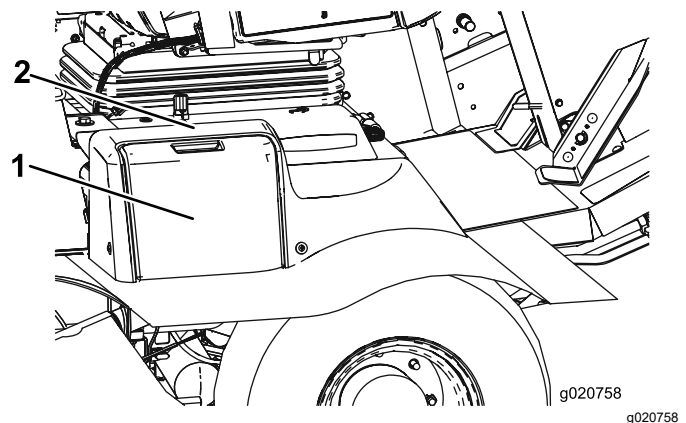

Figure 57
1. Open the battery cover on the side of the shroud (Figure 57).
Note: Press down on the flat surface above the battery cover to ease the removal of the cover (Figure 57).